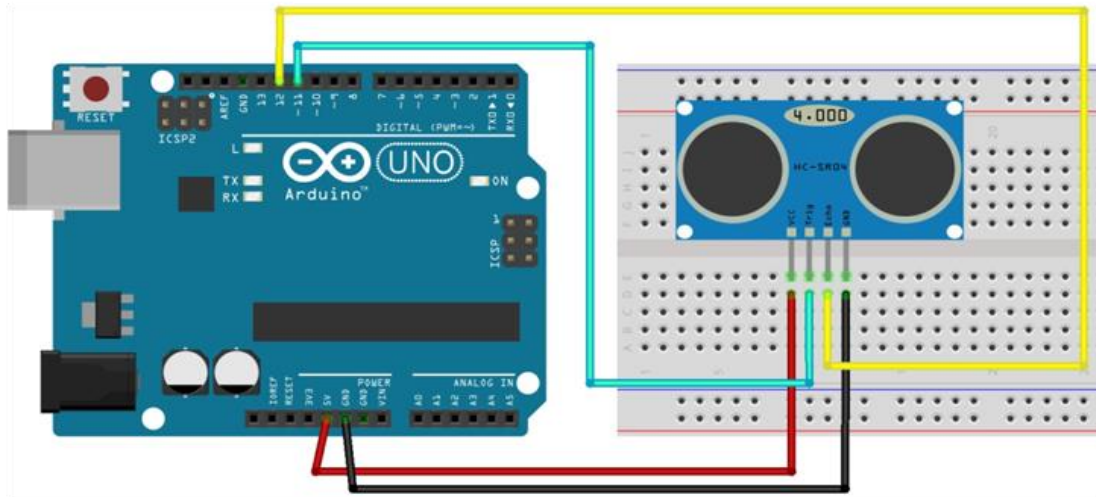

Figure 3: Arduino board's pin connections with the Sonar Sensors (schematic diagram)
The circuit diagram of Fig. 3 shows how to connect a sonar sensor to the Arduino UNO board, but you can follow the same procedure for the Arduino Mega or Arduino Nano. Almost everything will remain the same except for the pin numbers. You must check the pinouts of Arduino Nano or Mega. You also need to connect the resistors and LEDs as per your program codes.
1. Connect the circuit diagram as per Fig. 3. Connect three LEDs of red, green, and yellow colors to pins 2, 3, and 4, respectively through three 100 Ω resistors to limit the current flow through LEDs (though it is not shown in the circuit diagram of Fig. 3!).